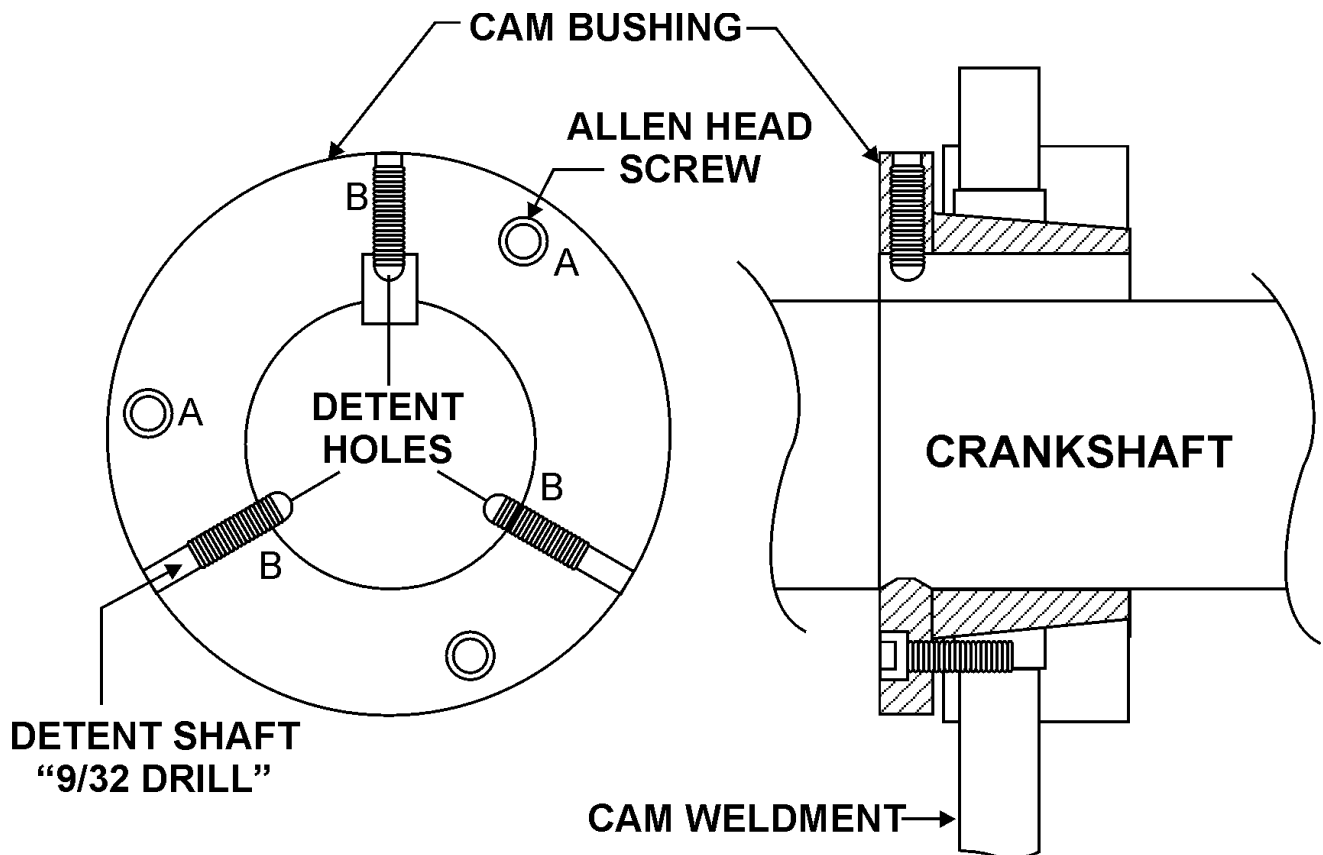

Figure 24. Detent Holes
1. After the bearing assembly has been installed, remove the three “dog type” allen head set screws (B) to allow detents to be drilled. See Figure 24 below.